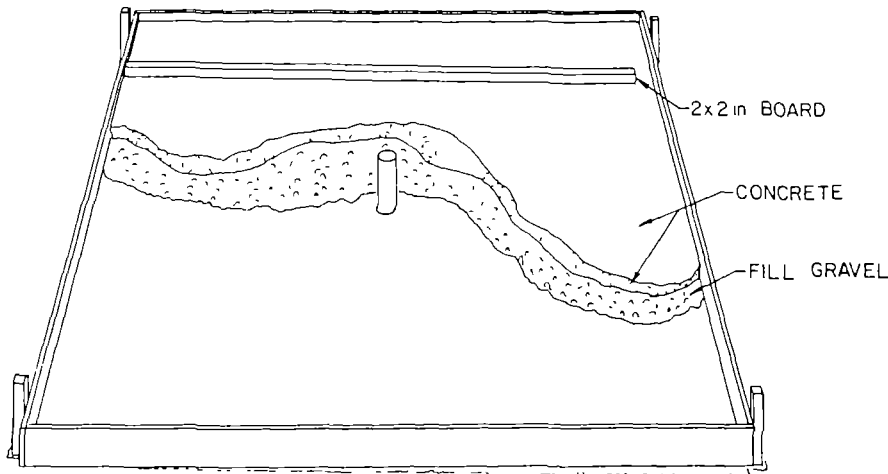

Figure 11. Pouring the Apron Slab
Measure ten (10) cm up from the bottom of the apron form and place a mark on the form. Repeat this in several places around the form. Prepare a 1:2:4 concrete mixture and fill the apron form to the height of the marks. Level the concrete with a long board (Fig. 11) and fill any low spots that will prevent water from draining off the apron. Smooth the concrete because cement rendering will not be applied to the apron.